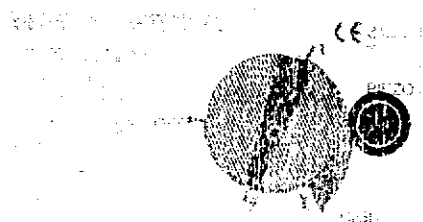

Fig. 11- Ignition position.
- 2 Whilst depressed, turn knob 70° anti clockwise to "IGN" setting as shown in figure 11. Depress the control knob further, and depress the Piezo to ignite the pilot light, repeat until ignition occurs.